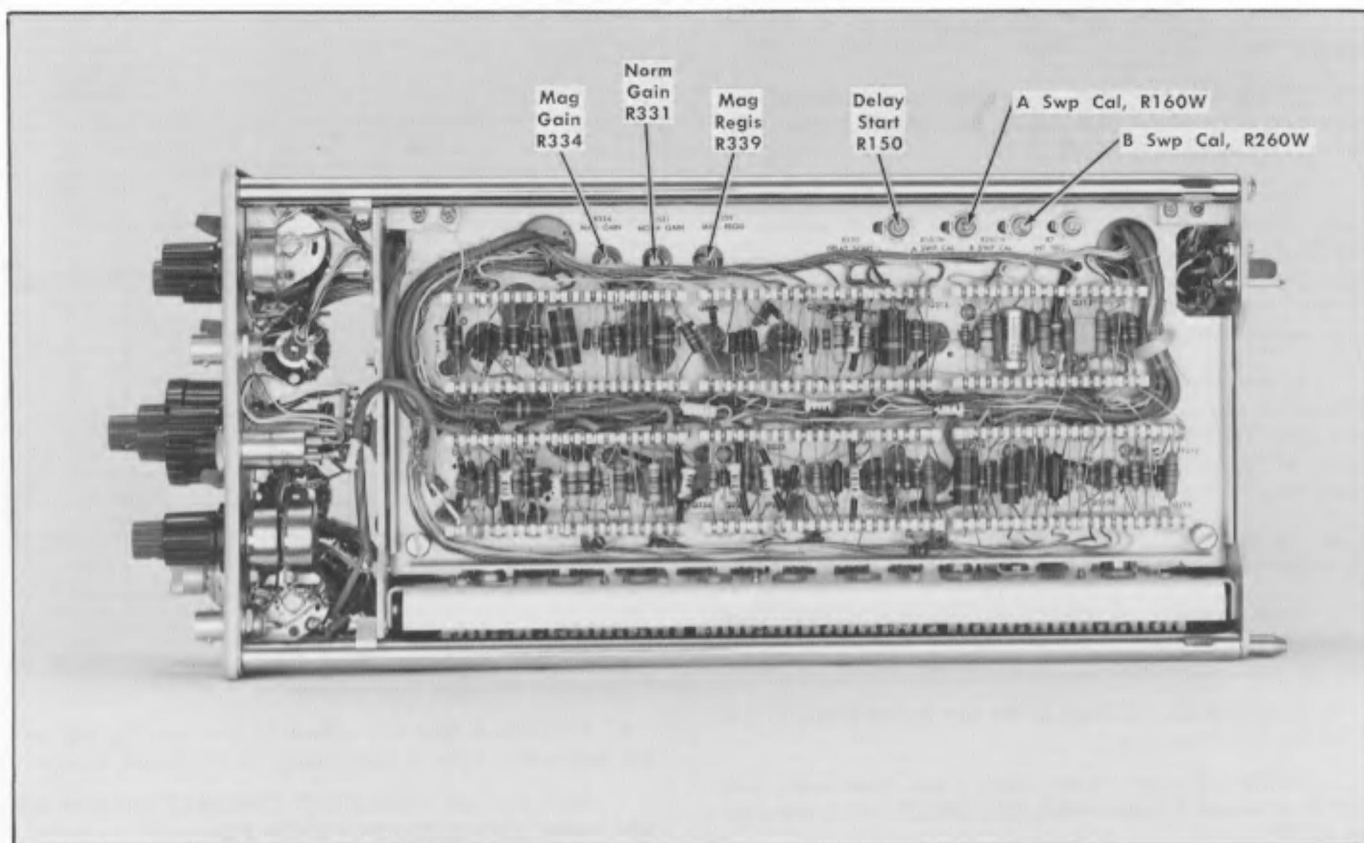

Fig. 6-6. Location of Delay Start, R150, A Swp Cal, R160W, Norm Gain, R331, Mag Gain, R334, Mag Regis, R339, and B Swp Cal, R260W.
h. ADJUST—Delay Start control, R150 (see Fig. 6-6) until the brightened pulse is brightening the second time marker.
k. ADJUST—A Swp Cal control, R160W (see Fig. 6-6) until the brightened pulse is brightening the tenth time marker.
o. ADJUST—Delay Start control, R150 (see Fig. 6-6) until the brightened pulse just starts at the start of the sweep.
r. ADJUST—A Swp Cal control, R160W (see Fig. 6-6) until the brightened pulse just starts at the start of the sweep.
- d. ADJUST—Norm Gain control, R331 (see Fig. 6-6) until the tenth time marker is exactly lined up with the ninth graticule line.
l. ADJUST—Mag Gain control, R334 (see Fig. 6-6) until the tenth time marker is exactly lined up with the ninth graticule line.
h. ADJUST—Mag Regis control, R339 (see Fig. 6-6) until the sixth time marker is exactly lined up with the center vertical graticule line.
- d. ADJUST—B Swp Cal control, R260W (see Fig. 6-6) until the tenth time marker is exactly lined up with the ninth graticule line.